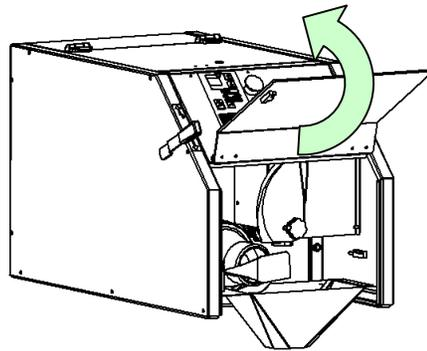

Fig. 9
3. As in Fig. 9, extract the axis of the feeler pin (number 1) and then remove the feeler pin (number 2).